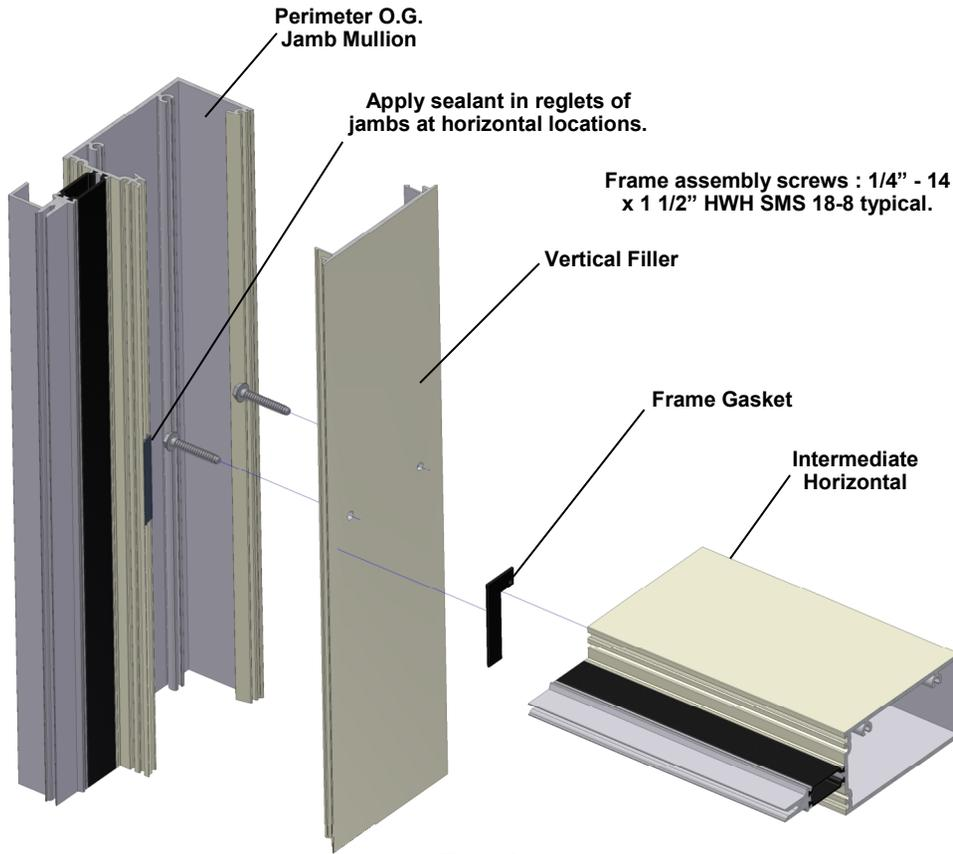

Figure 2
2. Remove the liner from the frame gaskets and apply them to the matching surfaces of the mullions ensuring the holes and edges align as required. See Figure 2, 3, 4, page 17. Butt sealing the ends of the horizontals may be used instead of applying frame gaskets, if desired.